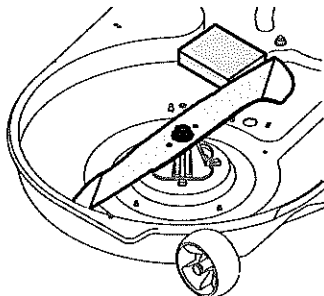

Figure 32
2. Place a block of wood between the center deck housing baffle and the cutting blade to act as a stabilizer. See Figure 32.
3. Remove the hex flange nut that secures the blade to the spindle assembly. See Figure 32.
3. Place a block of wood between the deck housing baffle and the cutting blade to act as a stabilizer. See Figure 32.